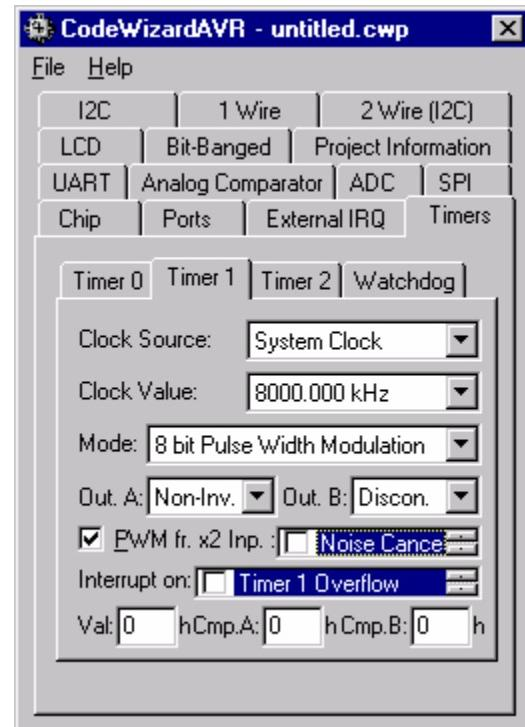

Figure 4: Timer1 (PWM)
6) Set the Timer 1 options as shown in Figure 4